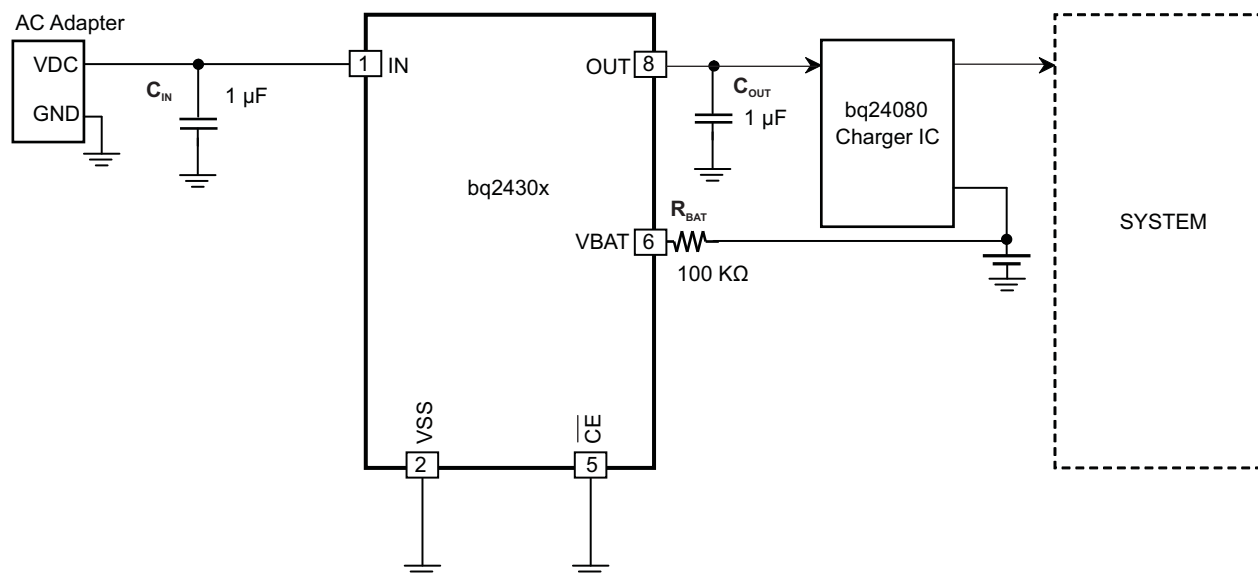
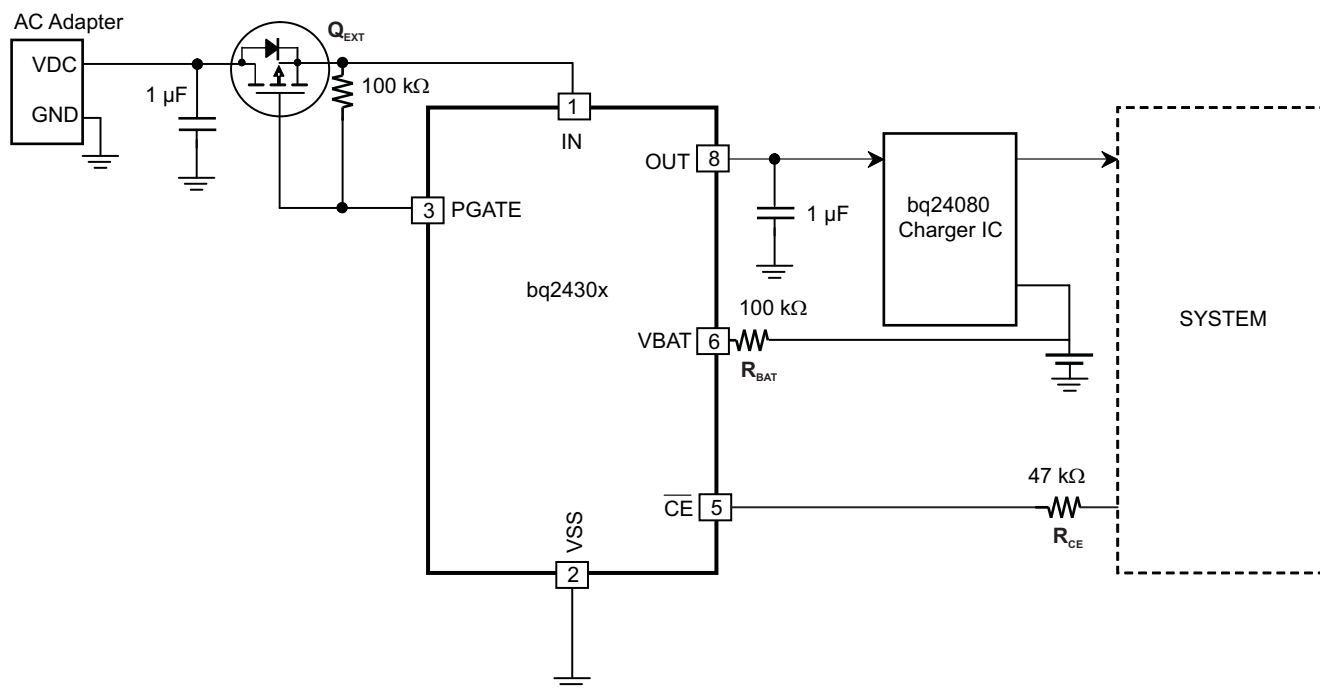

Figure 22. Overvoltage, Overcurrent, and Battery Overvoltage Protection
Figure 23. OVP, OCP, BATOV, and Input Reverse-Polarity Protection
Test conditions (unless otherwise noted) for typical operating performance are: $V_{IN} = 5\text{ V}$, $C_{IN} = 1\text{ }\mu\text{F}$, $C_{OUT} = 1\text{ }\mu\text{F}$, $R_{BAT} = 100\text{ k}\Omega$, $R_{OUT} = 22\text{ }\Omega$, $T_A = 25^\circ\text{C}$ (see Figure 22 - Typical Application Circuit)
The input capacitor C_{IN} in Figure 22 and Figure 23 is for decoupling, and serves an important purpose. Whenever there is a step change downwards in the system load current, the inductance of the input cable causes the input voltage to spike up. C_{IN} prevents the input voltage from overshooting to dangerous levels. It is strongly recommended that a ceramic capacitor of at least 1 μF be used at the input of the device. It should be located in close proximity to the IN pin.
C_{OUT} in Figure 23 is also important: If a fast (< 1 μs rise-time) overvoltage transient occurs at the input, the current that charges C_{OUT} causes the device's current-limiting loop to kick in, reducing the gate-drive to FET Q1. This results in improved performance for input overvoltage protection. C_{OUT} should also be a ceramic capacitor of at least 1 μF , located close to the OUT pin. C_{OUT} also serves as the input decoupling capacitor for the charging circuit downstream of the protection IC.
- Added device bq24305 to the data sheet - Changed the bq24305 marking in the Ordering Information table From CHD To: DSG - Changed Figure 22, Overvoltage, Overcurrent, and Battery Overvoltage Protection - Changed Figure 23, OVP, OCP, BATOVP With Input Reverse-Polarity Protection	1 2 12 12
- Deleted Lead temperature (soldering, 10 seconds) from the Abs Max table. This is covered in the Package information. - Changed Recommended Operating Conditions, Input voltage range - MAX value From 30V To: 26V - Changed BV_{OVP} test conditions - From: $\overline{CE} = \text{Low}$, $V_{IN} > 4.3V$, V_{VBAT} increasing To: $\overline{CE} = \text{Low}$, $V_{IN} > 4.4V$, V_{VBAT} increasing - Changed $V_{HYS-BOVP}$ test conditions - From: $\overline{CE} = \text{Low}$, $V_{IN} > 4.3V$, V_{VBAT} decreasing To: $\overline{CE} = \text{Low}$, $V_{IN} > 4.4V$, V_{VBAT} decreasing - Changed the Gate driver clamp voltage Typ value From: 14V To: 15V and the Max value From: 15V To: 17V - Changed Figure 23, OVP, OCP, BATOVP With Input Reverse-Polarity Protection - Changed section - Selection of R_{BAT} text From: $(30V - 3V) \times 100k\Omega = 246\mu A$ To: battery would be $(30V - 3V) \div 100k\Omega = 270\mu A$	2 2 3 3 3 12 16